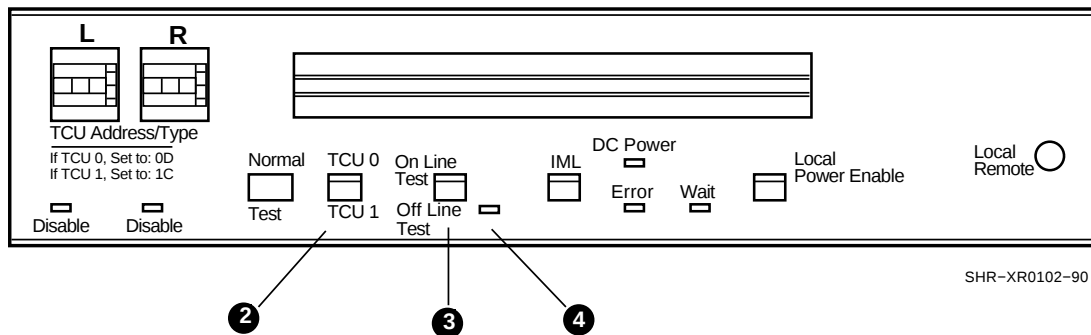

Figure 2-7 On Line Test/Off Line Test Switch, TCU0/TCU1 Switch
The TCU 0/TCU 1 switch ❷ identifies the tape control unit (Figure 2-7). This switch is set to TCU 0 at installation and should not be changed after the subsystem is installed.
The position of the On Line Test/Off Line Test switch ❸ determines whether the tape control unit can communicate with the controlling computer (Figure 2-7).